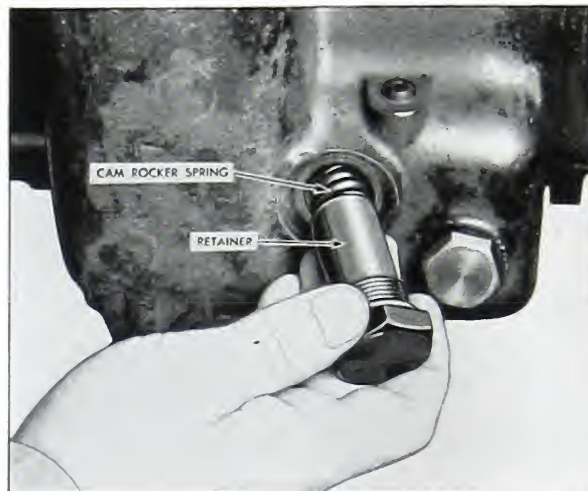

Fig. 5-152. Cam rocker lever spring and retainer
5. Assemble the cam rocker lever spring and retainer in position in the main housing. Fig. 5-152.